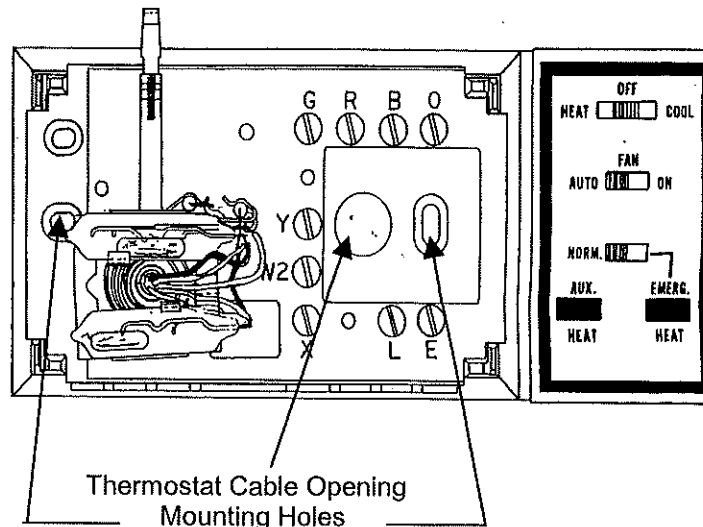

Fig. 2 Thermostat with Cover Removed
2. Run low voltage thermostat wires to the location and pull about 4" through the wall opening and lead through large opening in thermostat indicated in Figure 2.
3. Fasten thermostat on wall or a horizontal outlet box using two elongated holes as indicated in Figure 2.